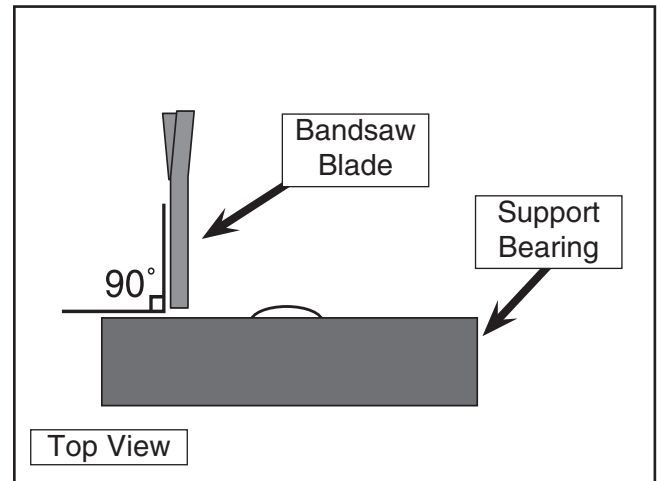

Figure 19. Blade should be perpendicular (90°) to the face of the support bearing.
5. Rotate the blade guide assembly side-to-side, until the blade is perpendicular with the face of the support bearing as illustrated in **Figure 19**.